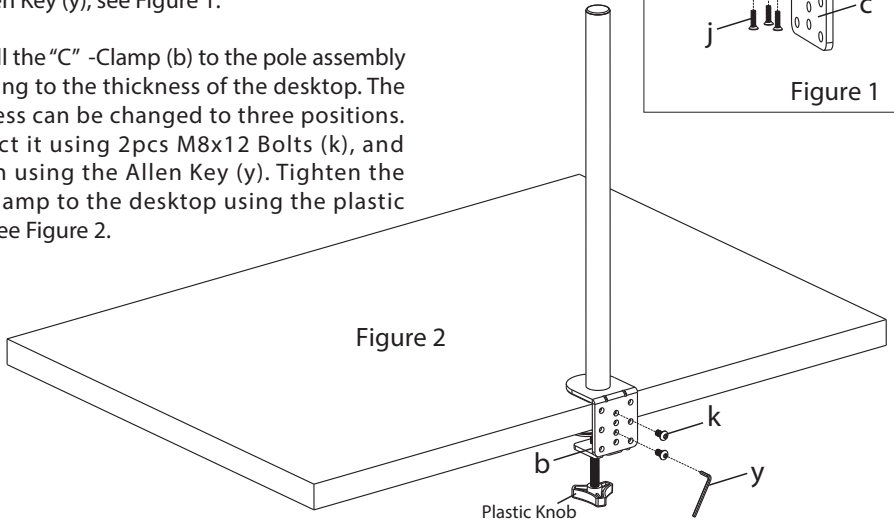

Figure 2
2. Install the "C" -Clamp (b) to the pole assembly according to the thickness of the desktop. The thickness can be changed to three positions. Connect it using 2pcs M8x12 Bolts (k), and tighten using the Allen Key (y). Tighten the "C" -Clamp to the desktop using the plastic knob, see Figure 2.